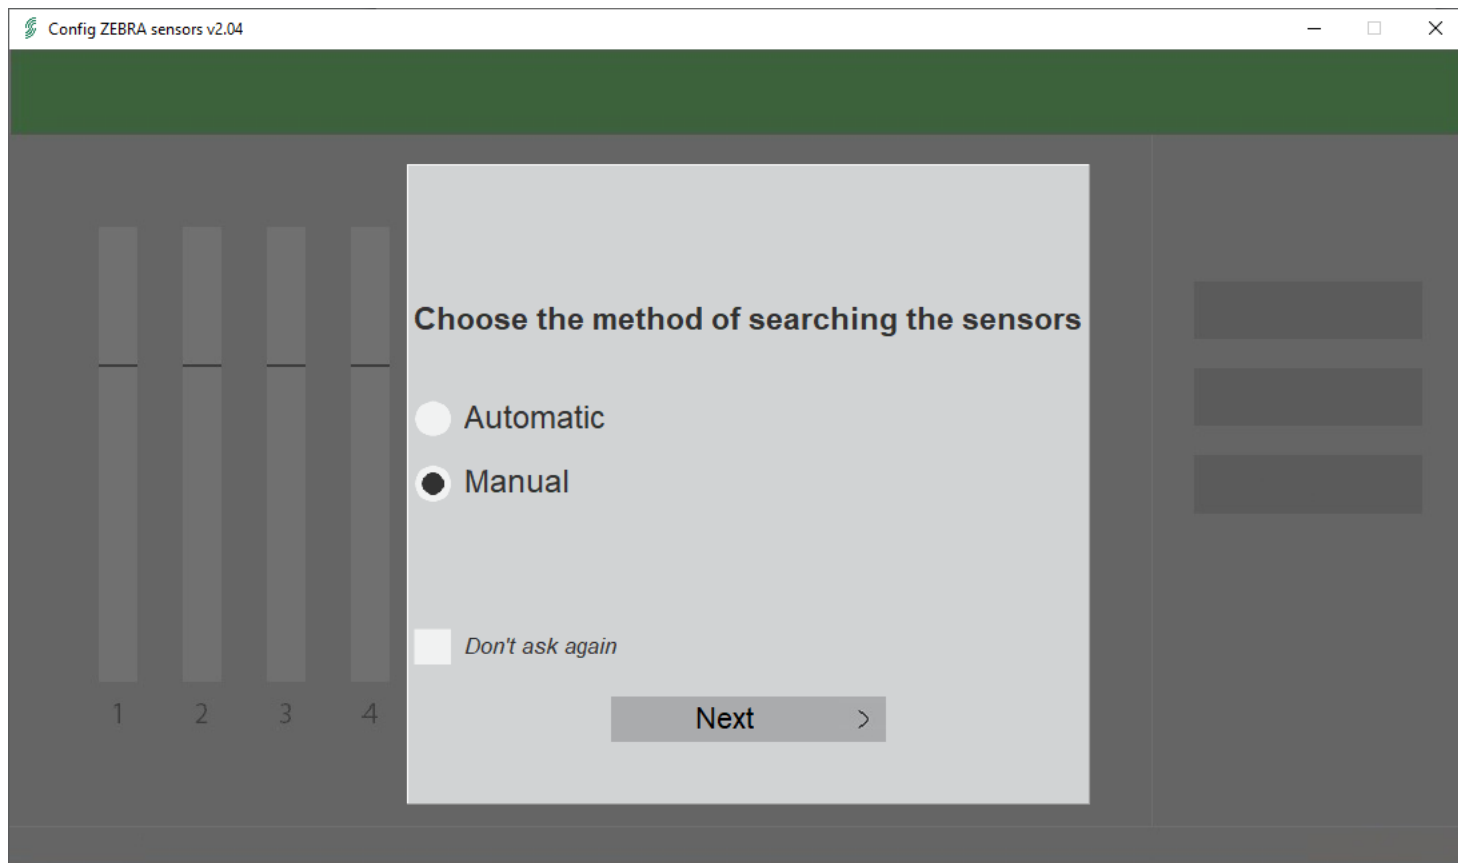

Figure 2.16
2.3.7.2.1 Start the program “Config ZEBRA Series” from the desktop. After the program has been started, it will appear the window of the search type shown in Figure 2.16.
The “Search” button is used to find occupied/free logical numbers, if the manual search was chosen (Figure 2.16). If the automatic search was chosen, the occupied/free logical numbers are determined automatically.